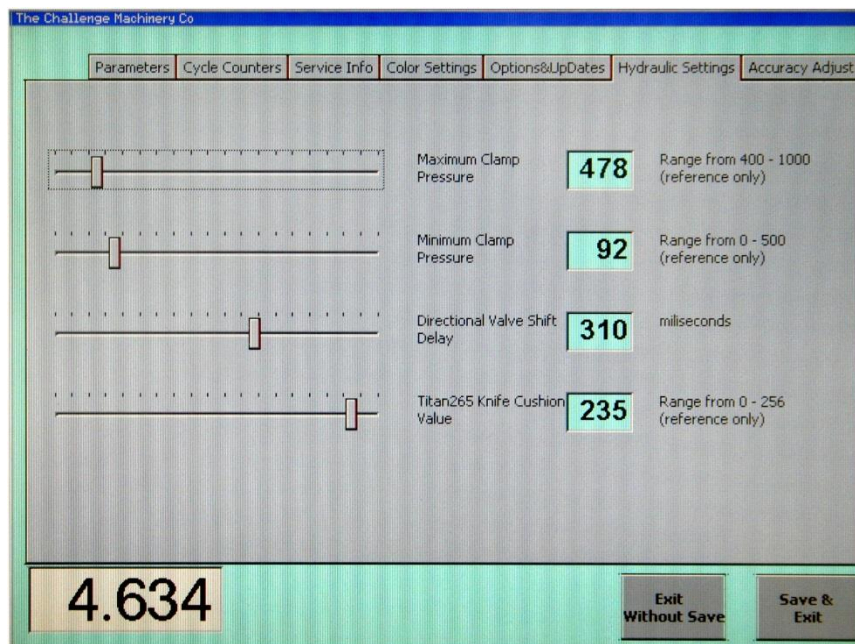

Figure 24
- a. On the TC touch screen, select the Maintenance pull-down menu then choose Setup. Then select the Service Info tab, and in the box for Enable Tabs Code, enter **6125**. Now select the Hydraulic Settings tab. The screen should look similar to Figure 24 below: